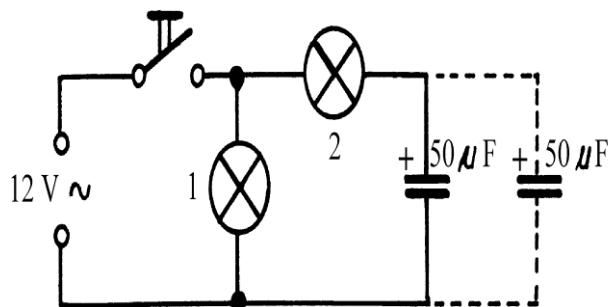

Figure 17 – Capacitors in parallel
- Wire the circuit on the board as shown in Fig. 17. Exclude the dotted line circuit.